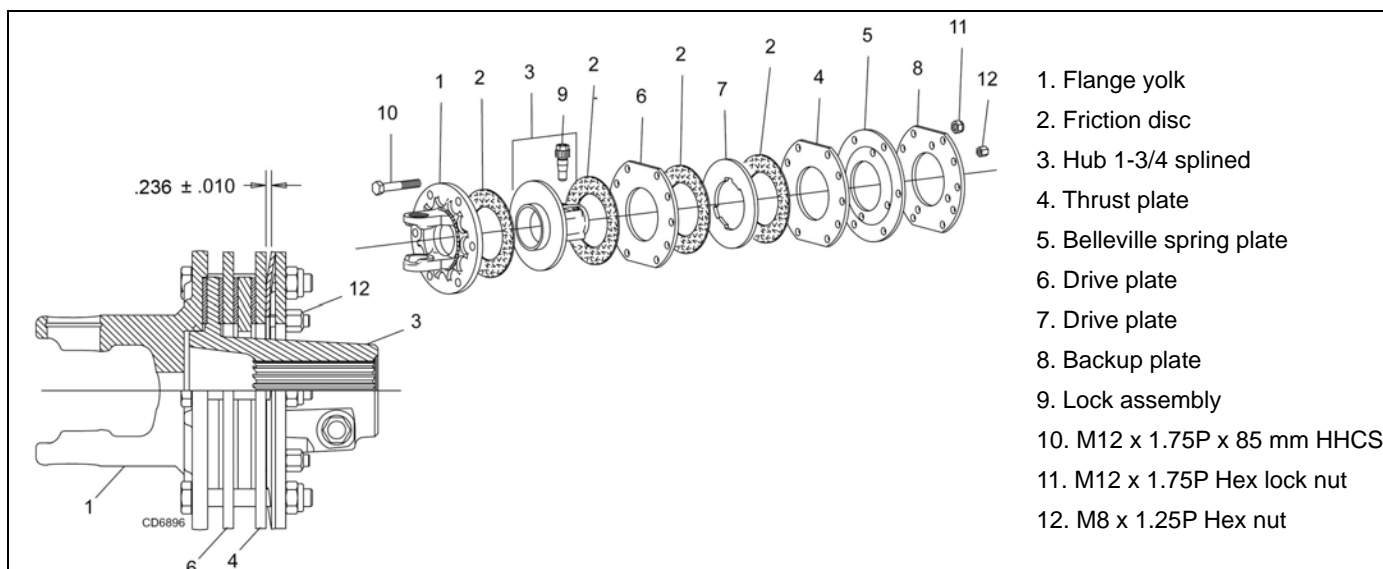

Figure 10. 4-Plate Slip Clutch Assembly
4-PLATE SLIP CLUTCH ADJUSTMENT (Figure 10)
2. Tighten four nuts (12) to remove pressure from the clutch plates (2). Repeat for all three clutches.
4. If clutches slip freely, completely loosen nuts (12).
5. If clutch does not slip freely, disassemble and clean plates (4, 6, & 7), flange yoke (1), and clutch hub (3).
7. Tighten Belleville spring (5) with nuts (11) until it is against the thrust plate (4) of the clutch. Back off each of the four nuts (11) until gap between Belleville spring and thrust plate is .236" as shown in Figure 10.
8. If a clutch continues to slip when the spring is compressed to .236" gap, check friction discs (2) for excessive wear. Discs are 1/8" when new. Replace discs after 1/16" wear. Minimum disc thickness is 1/16".